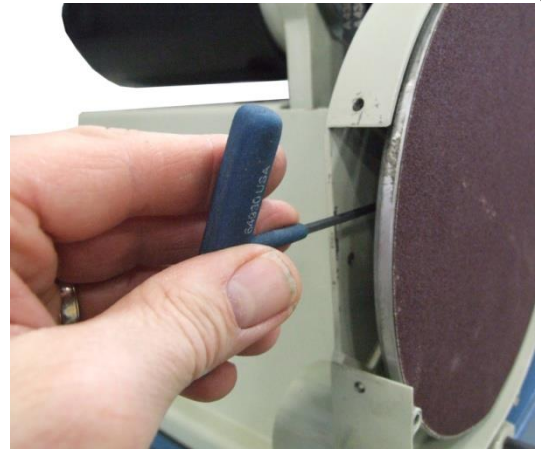

figure 10
3. Remove the disc plate (fig. 10). First remove the black plate at the bottom of the shroud (already shown removed). To get at the 3mm setscrew, remove the access plate, loosen the setscrew and pull the plate off the shaft.